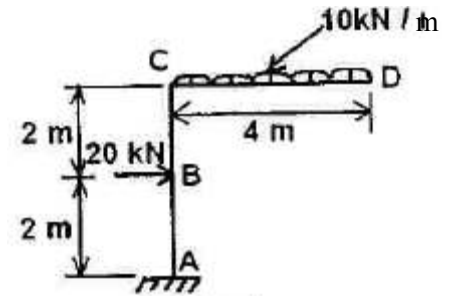

Fig. 3
- Q.3** (a) Find vertical deflection at point D for the frame shown in figure. 3 using any method. Take $EI=32000 \text{ kN.m}^2$. **06**